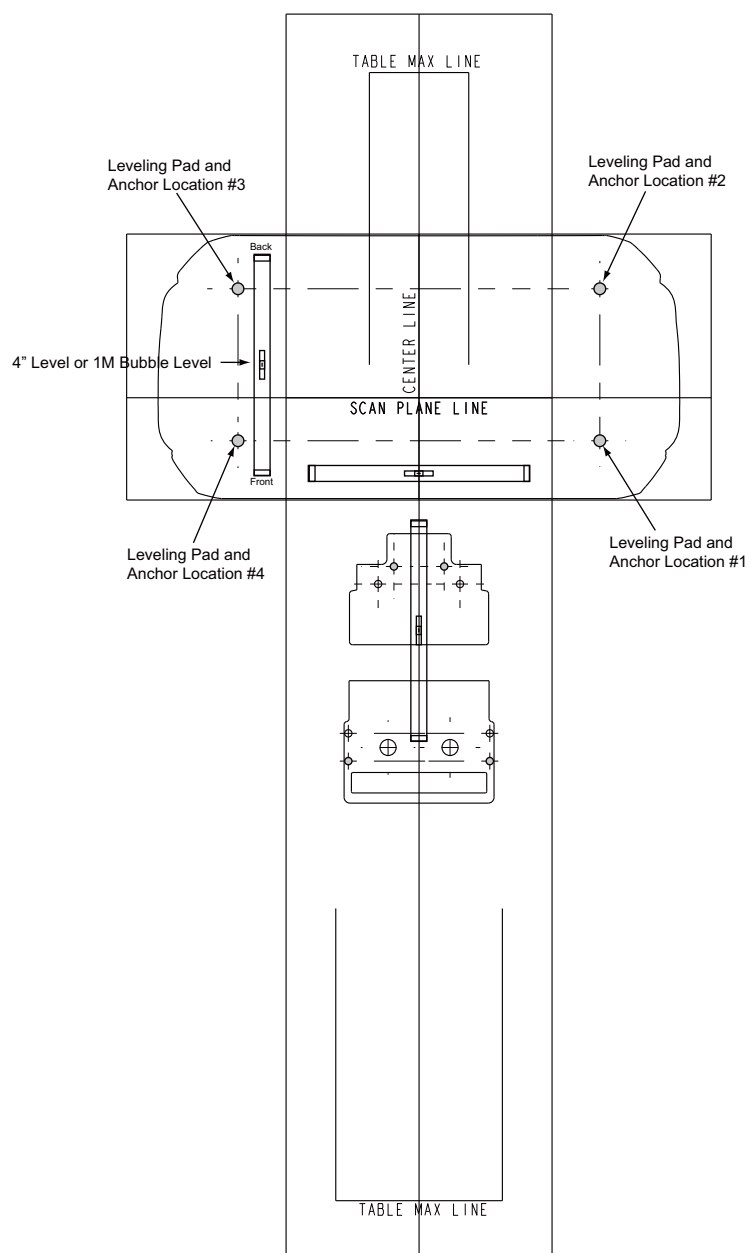

Figure 8-1 Determining Floor Levelness
- Use a laser to check the levelness of the floor across the entire area covered by the template, as shown in Figure 8-1.